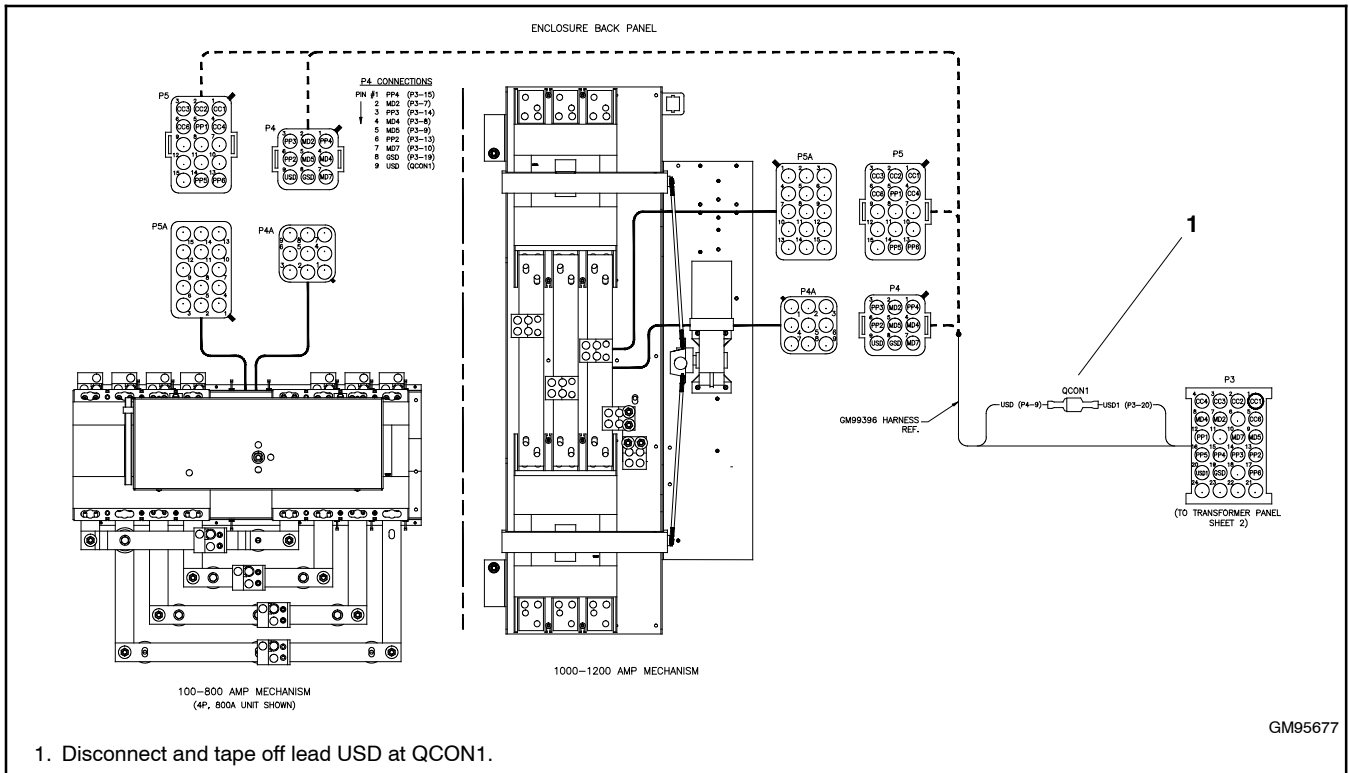

Figure 7-7 Disconnect QCON1, MCCB Models
2. Find the quick-connect QCON1 in lead USD, located between connectors P3 and P4. See Figure 7-7. Disconnect leads USD and USD1 at the quick-connect and tape the ends.